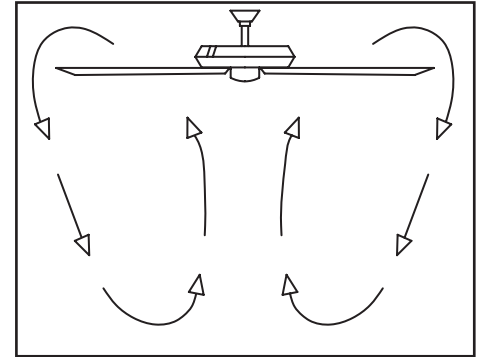

Figure 24
**Cool weather - (Reverse)** An upward air flow moves warm air off the ceiling as shown in Figure 24. This allows you to set your heating unit on a lower setting without affecting your comfort.